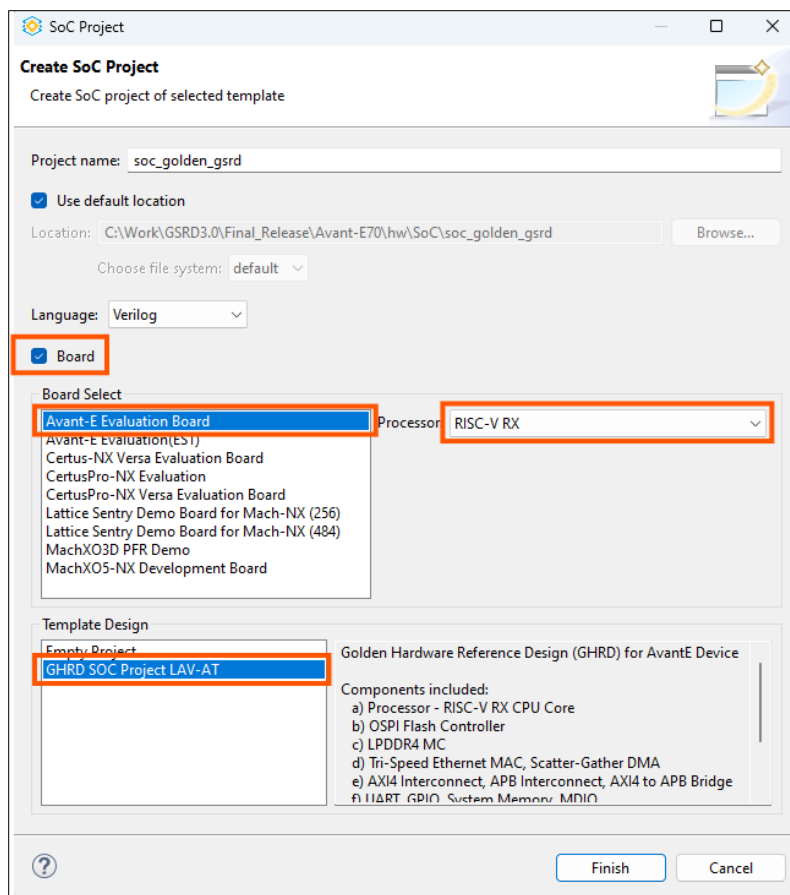

Figure 7.4. SoC Project Window
- From **Template Design** section, select **GHRD SoC Project LAV-AT** as shown in Figure 7.4.